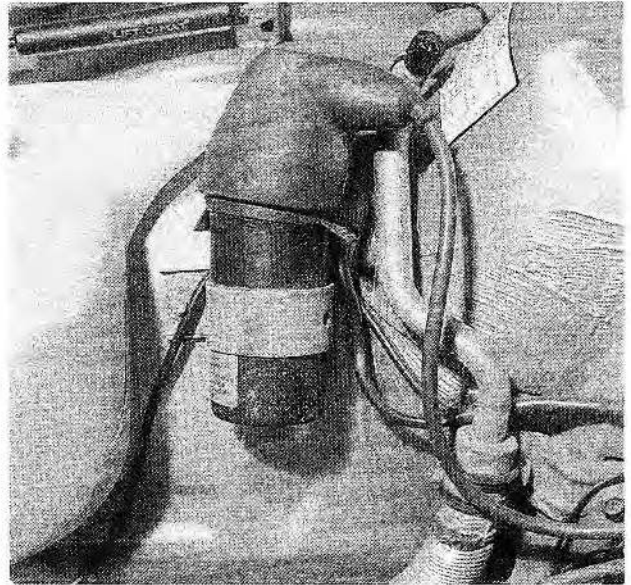

Fig. 5-1. Ignition coil with protective cover.
4. Peel back the protective cover from the ignition coil. Remove the high tension wire from the center of the ignition coil. Disconnect and label the two wires from the coil. See Fig. 5-1. Unclip the ignition coil wiring harness from the mounting on the side of the shock tower. Separate the harness connector from the wire leading out of the coil wiring harness.